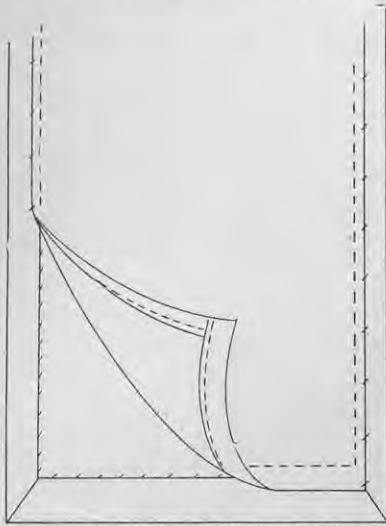

Fig. 8—The fitting of the finished lining on the drapery.
6. Make the lining narrower and shorter than the drapery so that the lining is invisible from the right side when the drapery is hung. Allow for turnings on the lining, but cut it so that the hemmed lining will meet the side and bottom hems of the drapery as in Fig. 8.